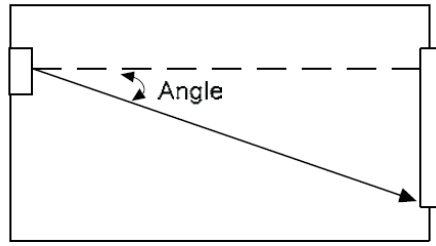
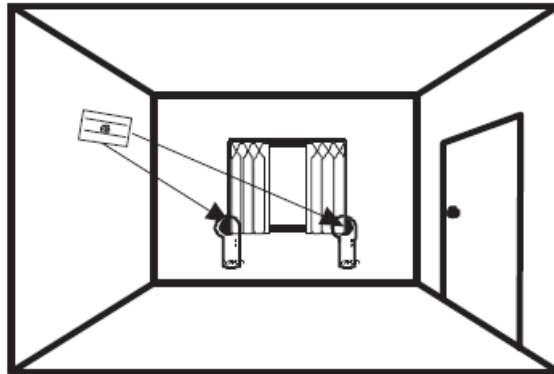

Fig 2: Angle between Wireless VITRON and glass
Fig. 6
Verify that the distance between the Wireless VITRON and the furthest point on the protected glass does not exceed the maximum specified range taking into account the reduced range due to angle (see Fig 2).
- Side wall – mounted (not recommended due to the fact that the Wireless VITRON is not opposite the glass – see range versus angle diagram (Fig 2). Test detection carefully at both ends of glass using RG-65 Tester (see fig. 6).